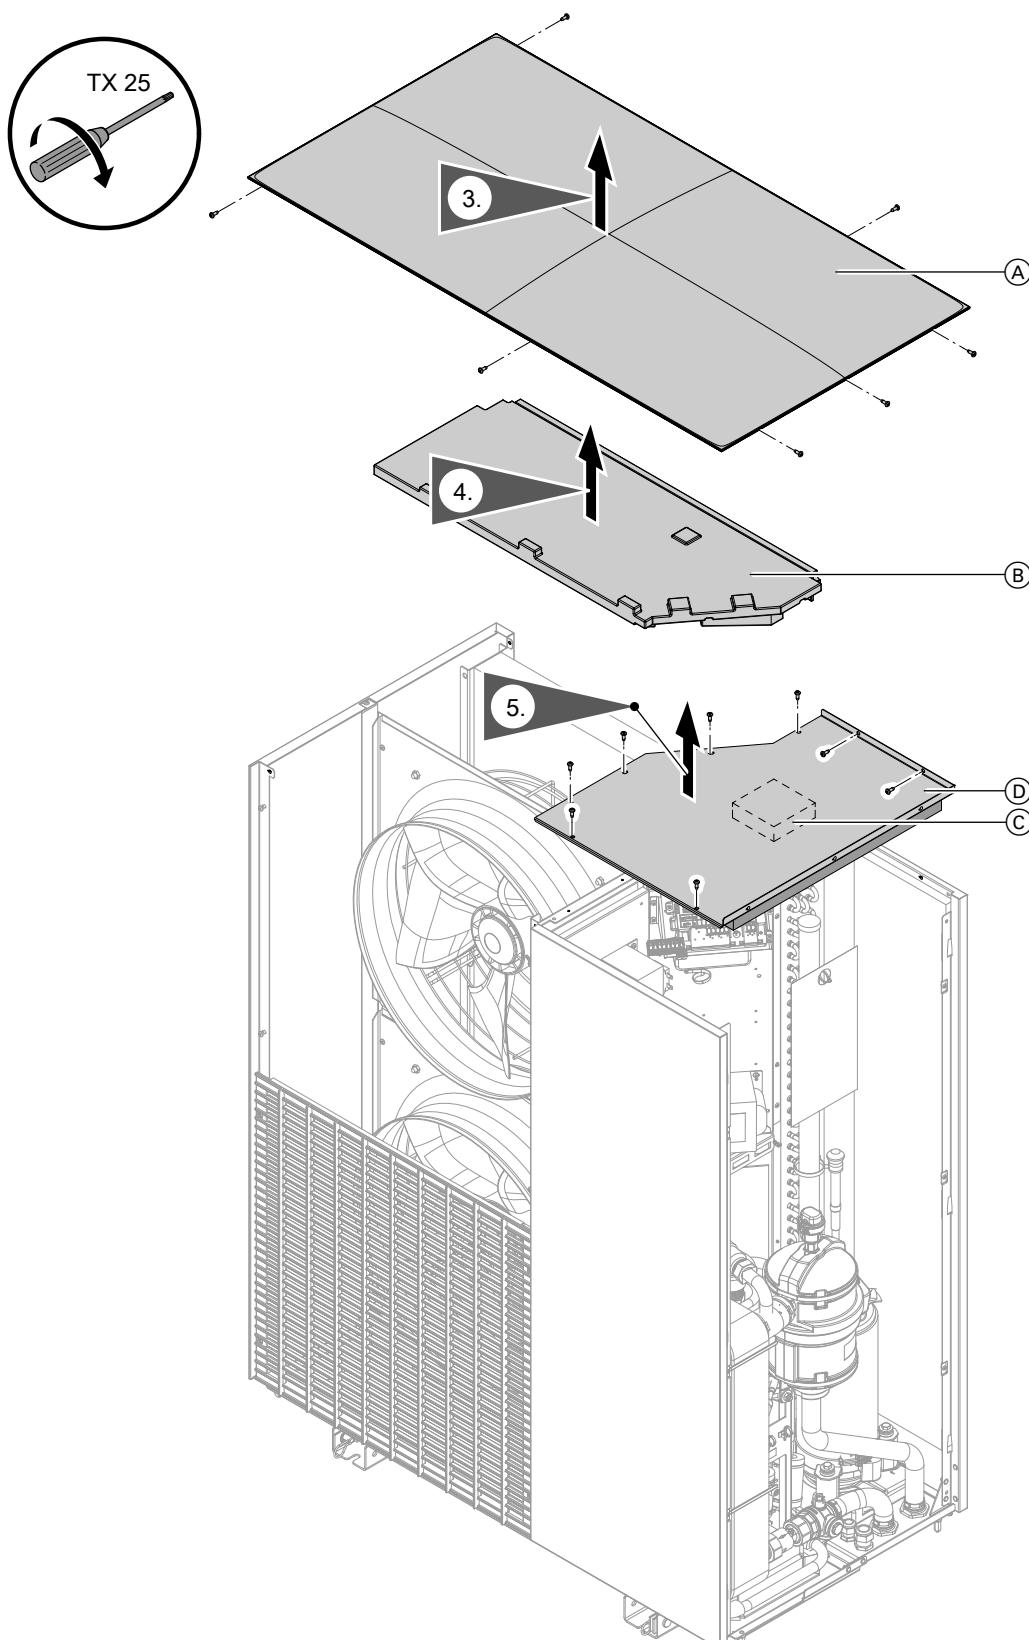

Fig. 99
4. Remove cover: See Fig. 99.
3. Remove cover: See Fig. 99.
2. Remove cover: See Fig. 99.